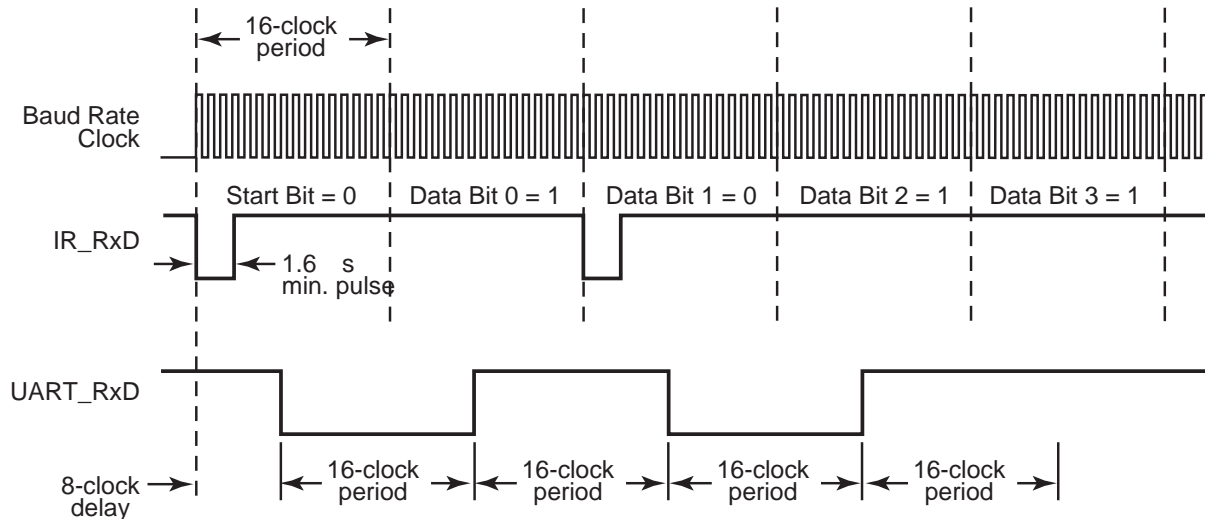

**Figure 25. Infrared Data Transmission**
The data to be transmitted via the IR transceiver is first sent to UART0. The UART transmit signal (TxD) and Baud Rate Clock are used by the infrared encoder/decoder to generate the modulation signal (IR\_TxD) that drives the infrared transceiver. Each UART bit is 16-clocks wide. If the data to be transmitted is a logical 1 (High), the IR\_TxD signal remains Low (0) for the full 16-clock period. If the data to be transmitted is a logical 0, a 3-clock High (1) pulse is output following a 7-clock Low (0) period. Following the 3-clock High pulse, a 6-clock Low pulse completes the full 16-clock data period. Data transmission is illustrated in Figure 25. During data transmission, the IR receive function should be disabled by clearing the IR\_RXEN bit in the IR\_CTL reg to 0. This prevents transmitter to receiver cross-talk.